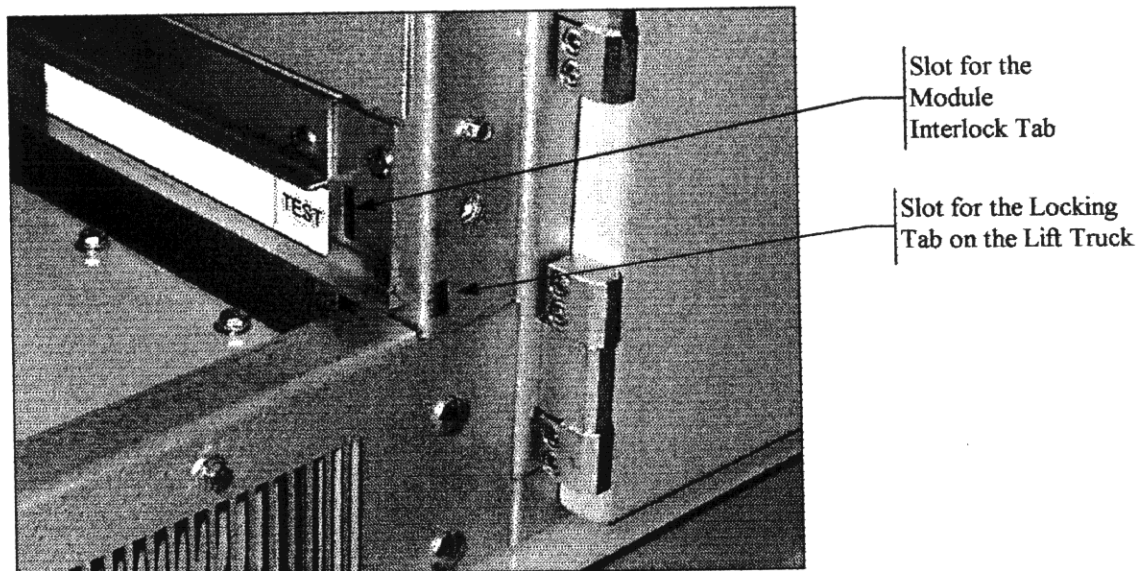
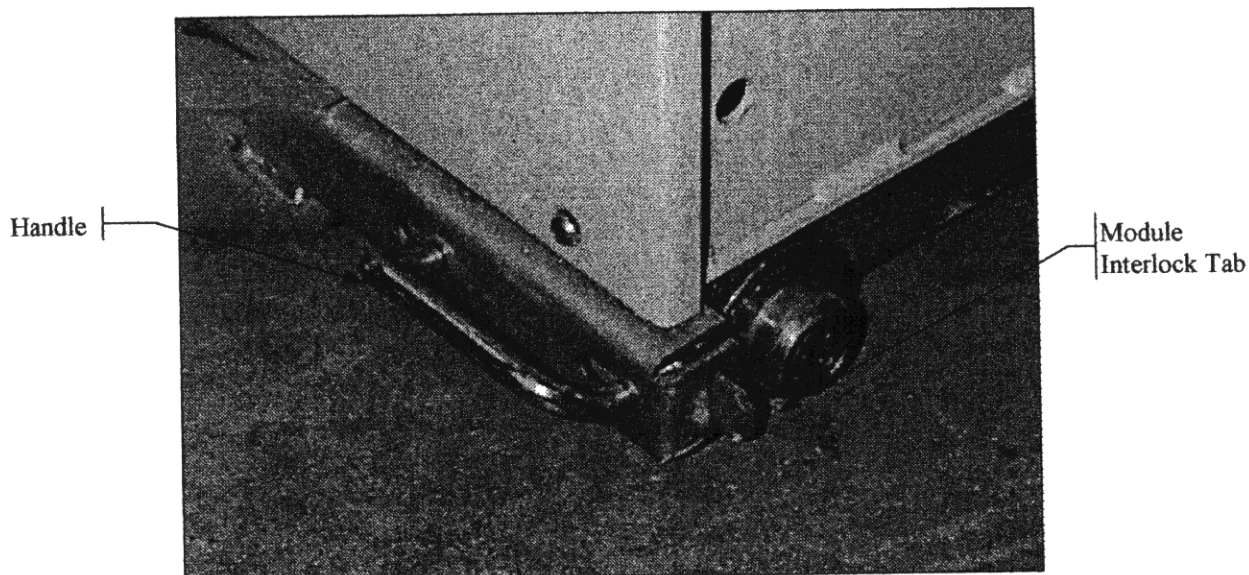

Figure 22. Interlock slots.
Figure 23. Module Interlock Tabs and Handles
- Step 1.** Align the locking tabs of the lift truck with the slots in the front of the module (see Figure 22). Push the lift truck to the frame to engage the locking tabs with the module. Lower the truck slightly to lock in place. Set the lift truck brake. Try pulling the lift truck away from the frame to ensure that the locking tabs are firmly in place and that the brake is set.
- Step 2.** To release the unit from the lift truck, withdraw the Module Interlock Tabs by pulling the handles toward the center of the unit (see Figure 23).
- Step 4.** Align the Module Interlock Tabs (Figure 23) with the auxiliary module slots (Figure 22).